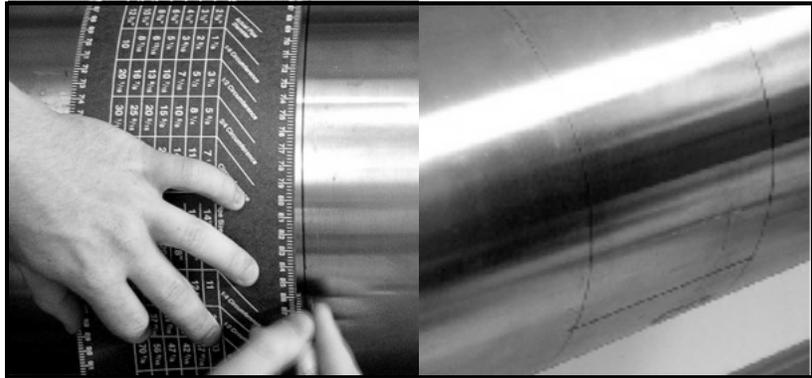

Figure 1-14: Marking the 9 o'clock Position
4. To find the coinciding point on the opposite side of the pipe (180° away from each other), divide the measured circumference by 2 and measure this distance along the circumferential lines from the zero point, as shown in Figure 1-14 below. Place marks on both sides of the circumferential lines made with the layout wrap and connect the marks.